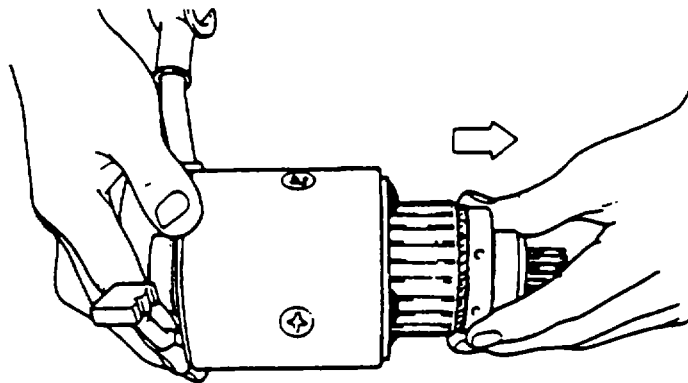

FIGURE 3-20. Removing Armature
- f. Remove armature (14, FIGURE 3-15) from magnetic switch assembly (24), refer to FIGURE 3-20.